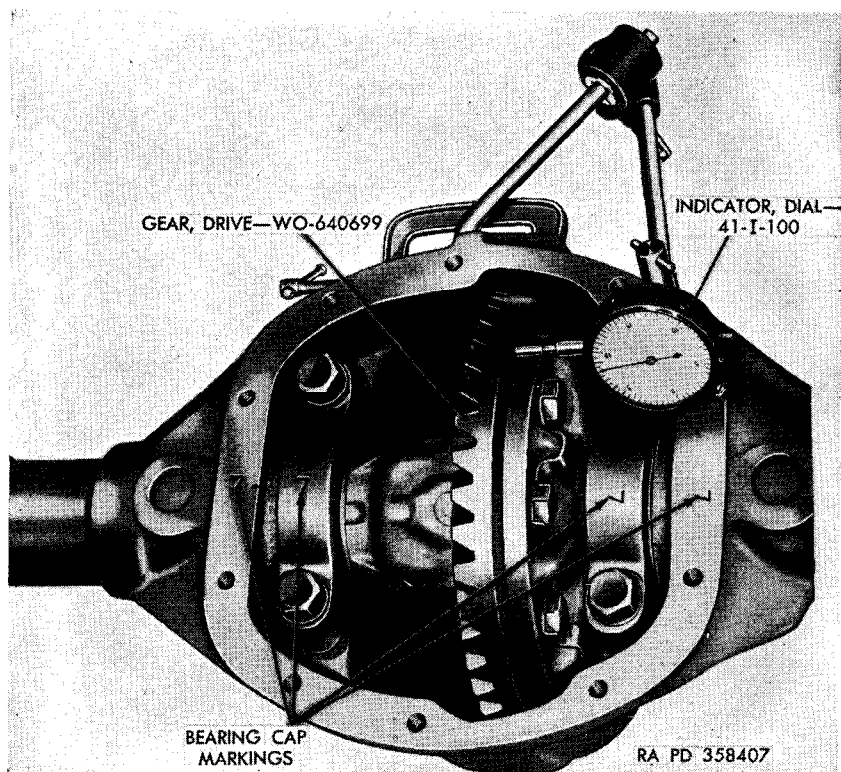

Figure 84. Checking drive gear run-out using dial indicator 41-I-100.
b. Check Drive Gear Run-Out. Install a dial indicator 41-I-100 (fig. 84) on the differential case carrier housing so that the indicator contact point is resting on the flat side of the drive gear. As the drive gear is turned by hand, check reading of the dial indicator. A total indicator reading in excess of 0.003 inch indicates a warped or nicked differential case or an improperly installed drive gear. In either case, remove the differential case (par. 92) from the carrier housing and